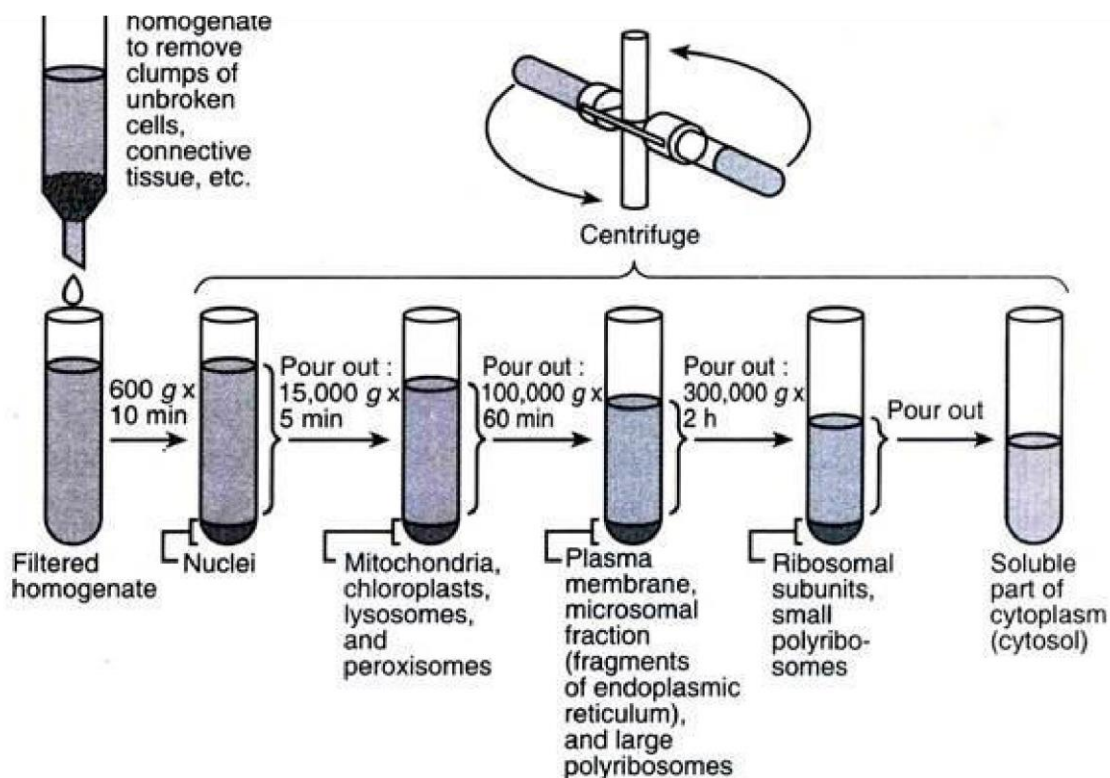

Figure 1: General principle of differential centrifugation, applied to subcellular fractionation (image credit: (Kumar))
1. In medical and biology labs, crude tissue homogenates containing organelles, membrane vesicles, and other structural fragments are divided into different fractions by the stepwise increase of the applied centrifugal field. Furthermore, differential centrifugation is also routinely used in the isolation of non-living substances, like nanoparticles, colloids, and viruses. The general principle of differential centrifugation is outlined in Figure 1.